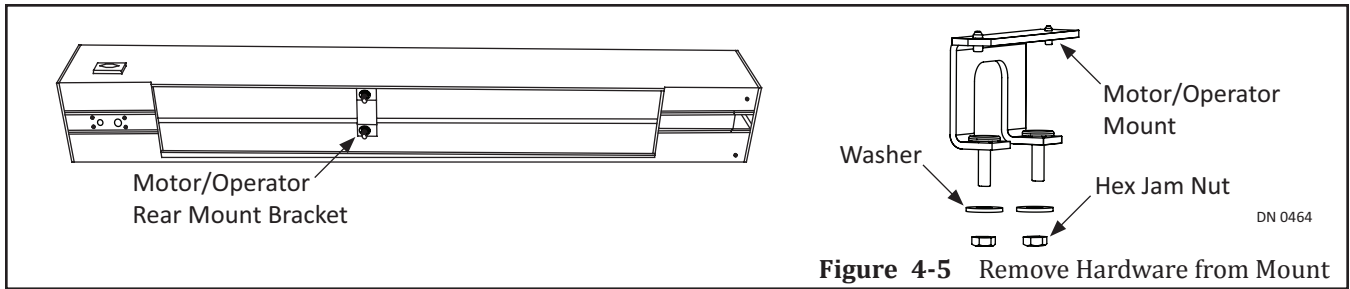

Figure 4-5 Remove Hardware from Mount
4. With a 9/16 inch Deep Well Socket and Ratchet, remove (2) 3/8-16 inch Hex Jam Nuts and (2) 7/16 x 1 inch Washers from (2) Studs extending downward. Please see Figure 4-5.
5. Hold the Front end of Motor/Operator at an upward angle to slide Front Mount onto (2) Pivot Base Tabs located inside the Header.